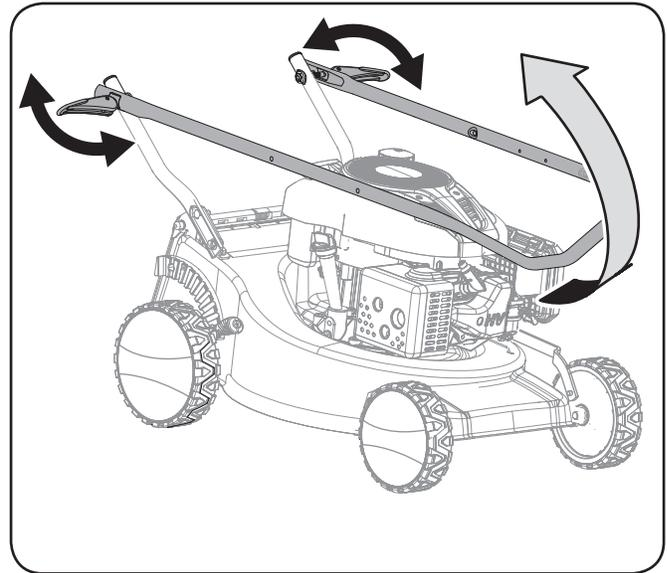

Figure 3-3
1. Turn the cam lever to release the handle from the folding position for storage. See Figure 3-3.
2. Pivot the upper handle into the operating position. Turn the cam lever to lock the upper handle. See Figure 3-3.